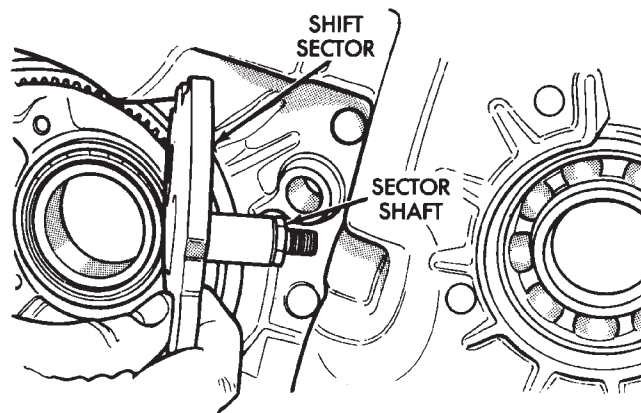

Fig. 78 Shift Sector Installation
(2) Lubricate mainshaft components with Dexron II transmission fluid.
(3) Lubricate sector shaft with transmission fluid and install shift sector in case (Fig. 78). Position slot in sector so it will be aligned with shift fork pin when shift forks are installed.